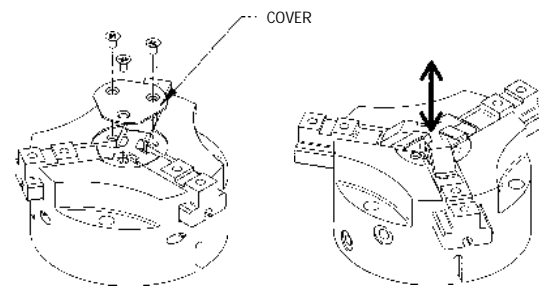

Figure 2
6. From the top of the gripper remove the 3 cover fasteners and the cover (Figure 2).